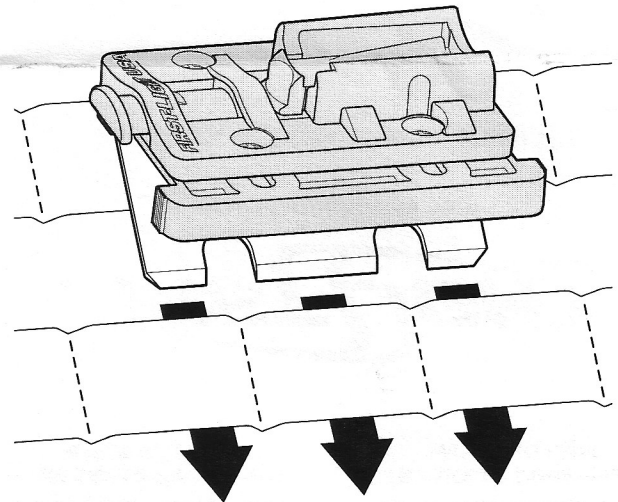

Figure 4
- Slide the three mounting blades under the webbing loops. The two stitch lines will align with the grooves in mounting blades (Figure 4).